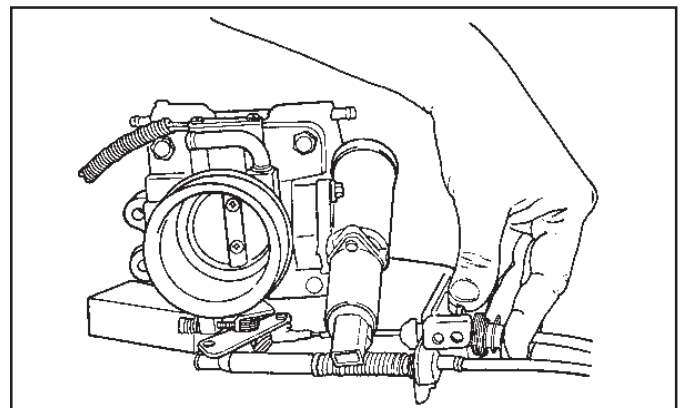

Figure 15
- 5.8 Push on the slider from behind bracket until TV pressure is 227 kPa (33 psi). While still holding slider, push down on toggle lever as far as it will go, locking slider in position. (See Fig. 15.) **NOTE:** Toggle lever must be completely down (lying flat in adjuster assembly) to lock properly.